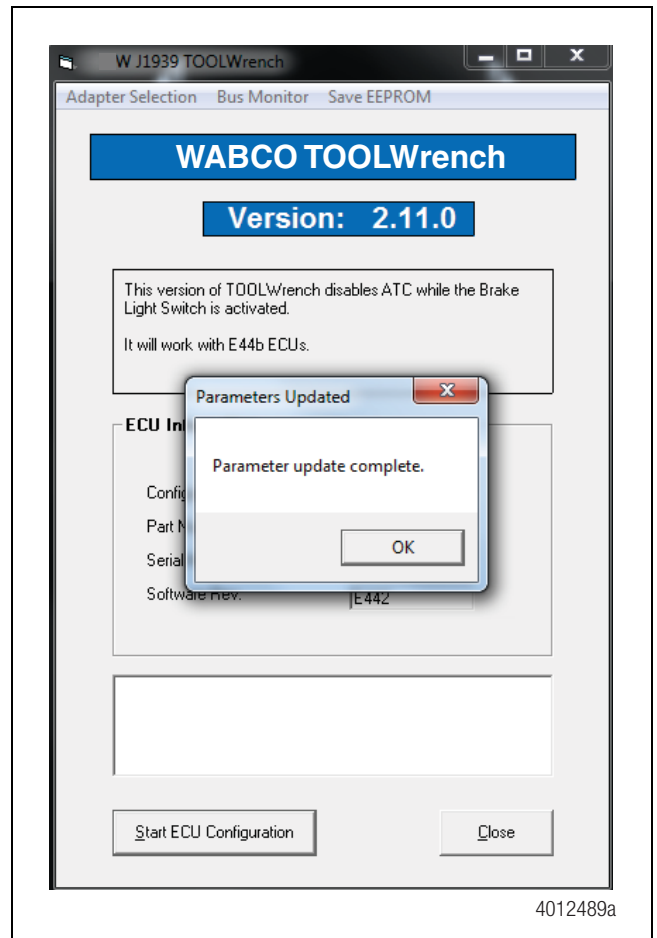

Figure 5
3. When the Parameter Updated message appears, click the “OK” button. Figure 5.